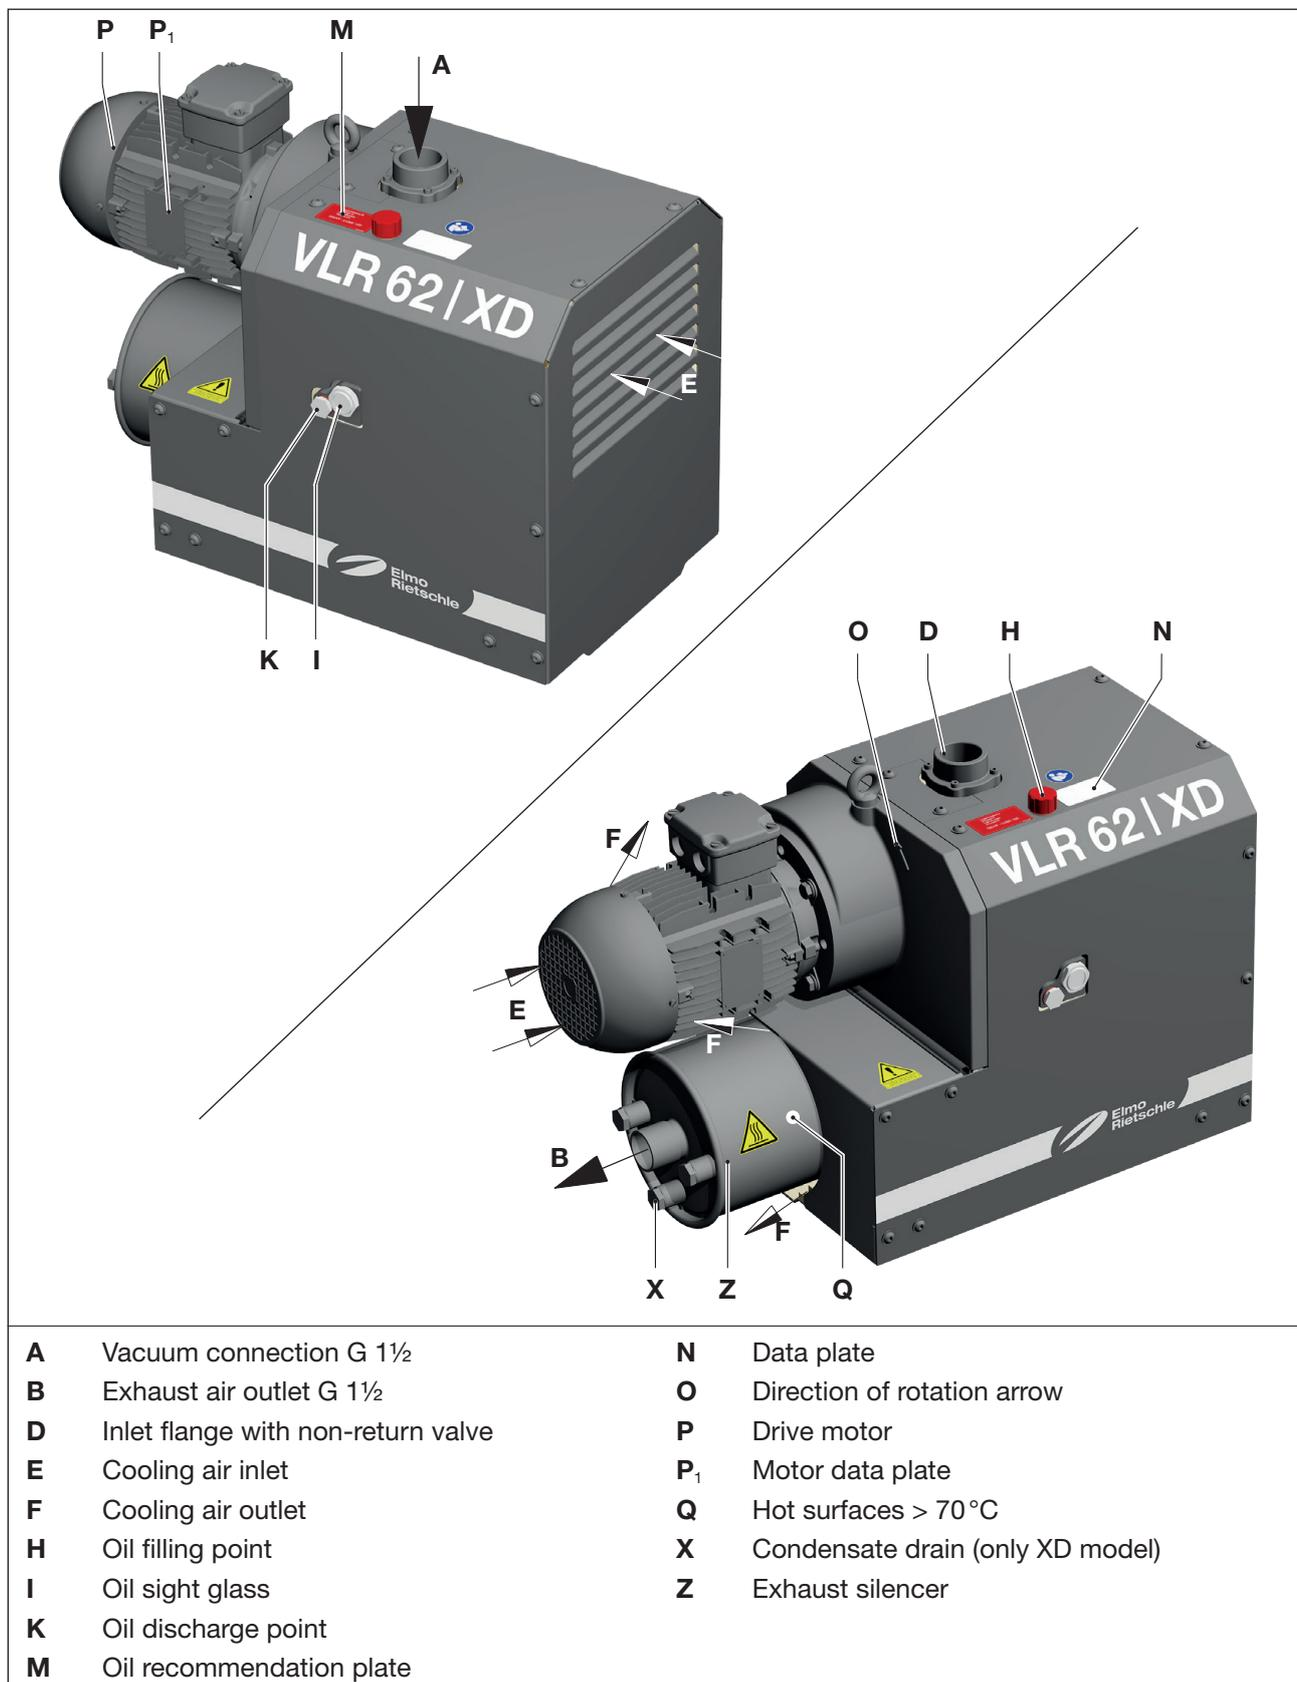

Fig. 2 Vacuum pump C-VLR 62 XD with active cooling (CD is identically structured)
The VLR xx2 is enclosed in an insulation hood. In order to dissipate the generated heat away from the compressor, the cooling air is sucked through between the compressor and the hood using a drum fan that sucks in the fresh cooling air (Fig. 2-Fig. 3/E) and discharges the heated air out of the cooling air outlet (Fig. 2-Fig. 3/F). It is driven via a coupling by a flanged, three-phase standard motor.
The VLR xx2 has a connection flange on the inlet side and an exhaust silencer on the pressure side (Fig. 2-Fig. 3/Z). An integral non-return valve prevents the evacuated system from being ventilated after the pump has stopped. This non-return valve includes a mesh filter to avoid damages due to pollution. Depending on the mechanical variant, a vacuum relief valve is integrated in the machine.
- Oil filling point (Fig. 2- 3/H), oil sight glass (Fig. 2- 3/I) and oil drain (Fig. 2- 3/K) must easily be available.
- a) Remove the blind plug from the vacuum connection (Fig. 2- 3/A) and exhaust air outlet (Fig. 2- 3/B).
- b) Connect the pipes with the vacuum connection (Fig. 2 3/A).
- c) The exhausted air can be blown out through the exhaust air outlet (Fig. 2- 3/B) on the exhaust silencer (Fig. 2- 3/Z) or conducted away using a hose or pipeline.